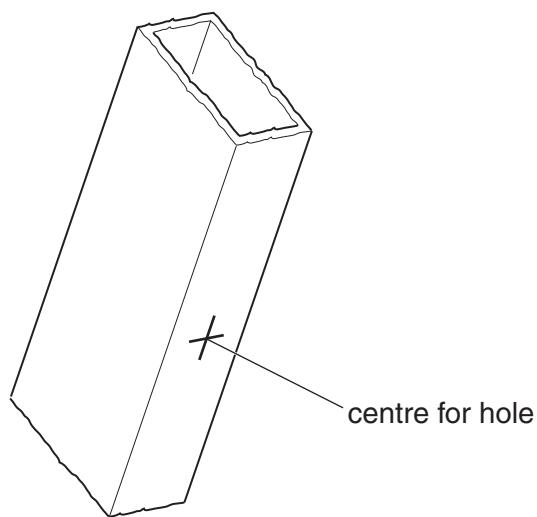

Fig. 3
- (b) Fig. 3 shows the centre for a hole to be drilled in one of the legs to take a support.